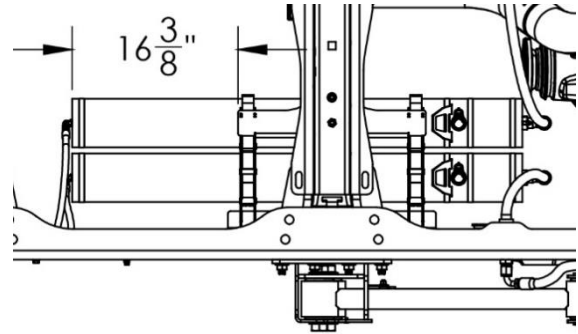

Figure 20. Secondary Volume Assembly Placement.
1. Find the (2) existing holes in the frame as shown in Figure 20 on passenger side of vehicle.